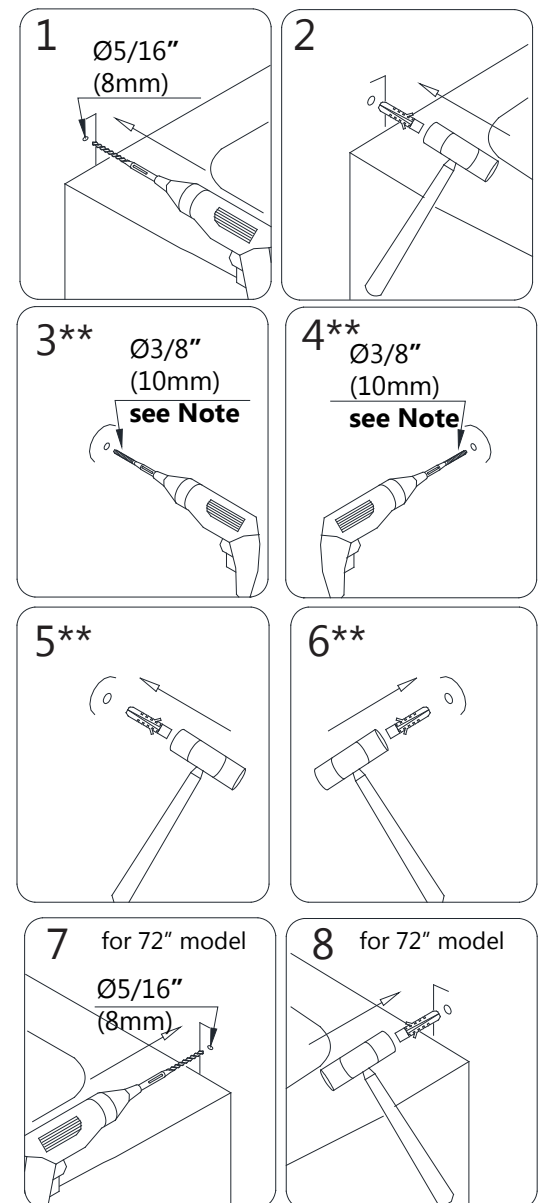

Fig 12
****If installing into a stud (recommended), drill a Ø1/4" hole and do not use the wall anchors (see note above).** **(Fig 12)**